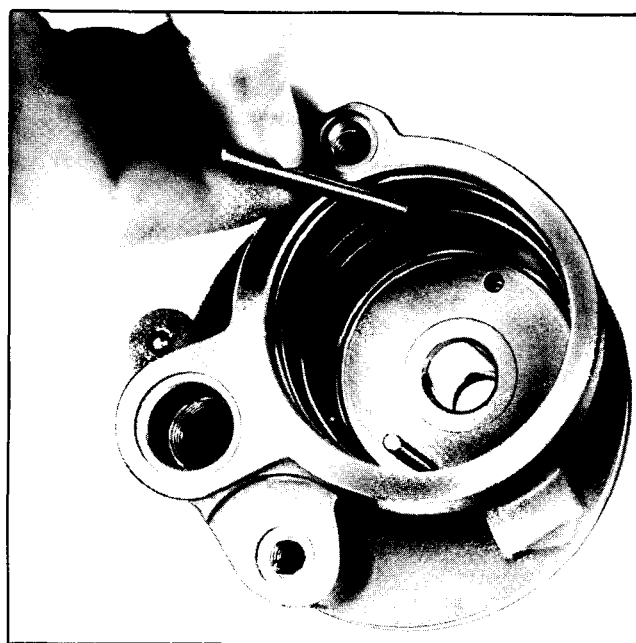

Fig. 9-115 Removing Dowel Pin
11. Remove rotor and thrust plate from shaft and both dowel pins from housing (Fig. 9-115).